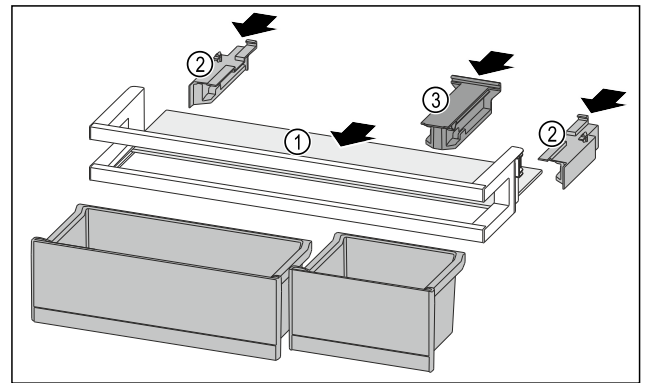

Fig. 100
- ▶ Push the shelf Fig. 100 (1) into the side recesses.
- ▶ Insert the side parts Fig. 100 (2).
- ▶ Insert the holding part Fig. 100 (3).